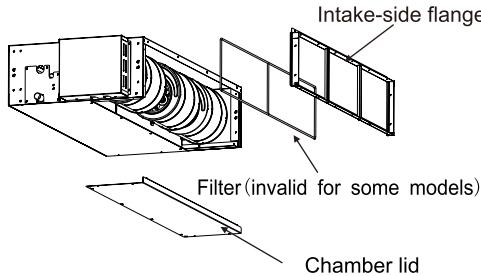
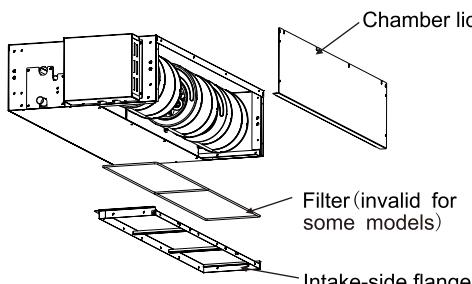

Fig. 3.1.2
Fig. 3.1.3
- Reattach the removed filter in the orientation shown in Fig. 3.1.2, reattach the removed chamber lid in the orientation shown in Fig. 3.1.3, refer to Fig.3.1.3 for the direction of filter.